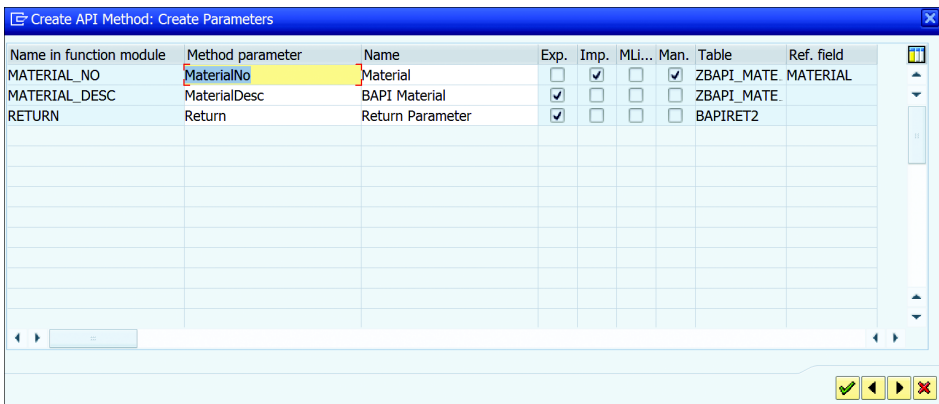

Figure 19.20 Method Parameters
5. In the next step, as shown in Figure 19.20, verify the method parameters and, if required, edit the parameter names for the method. Click NEXT STEP to implement the method.